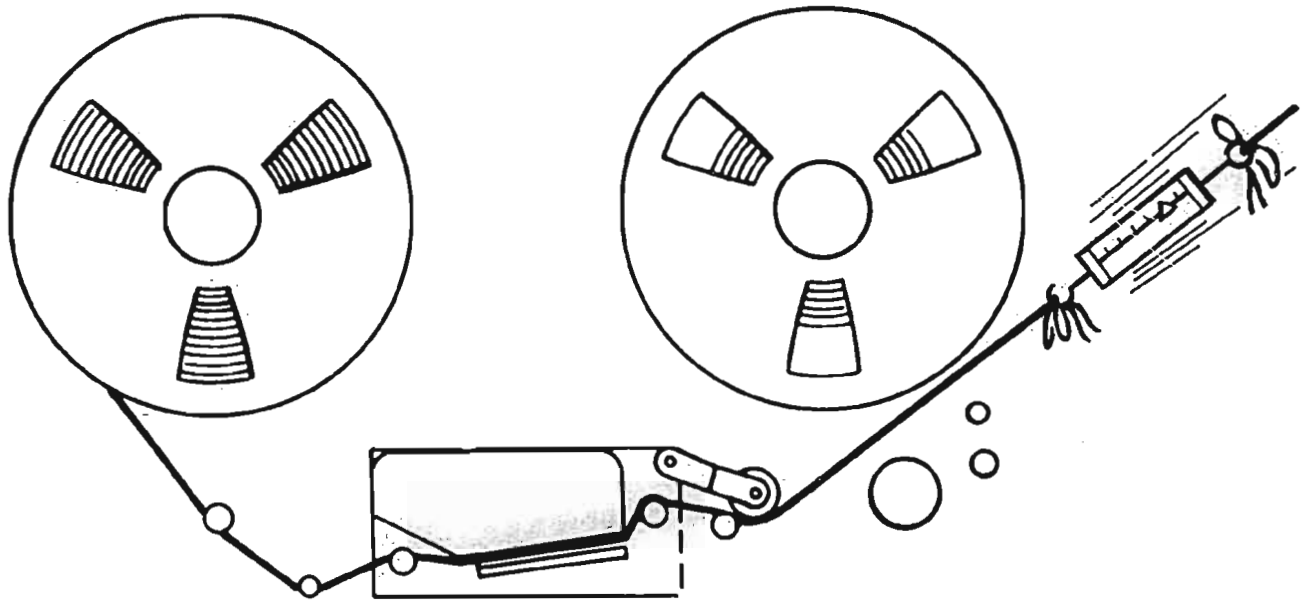

Figure 16. Pinch Roller Adjustment
1. Wrap a 12-inch knotted piece of lacing, nylon cord, or twine around pinch roller yoke as shown in Figure 16. Insert hook of 0 to 10-lb scale in cord loop.